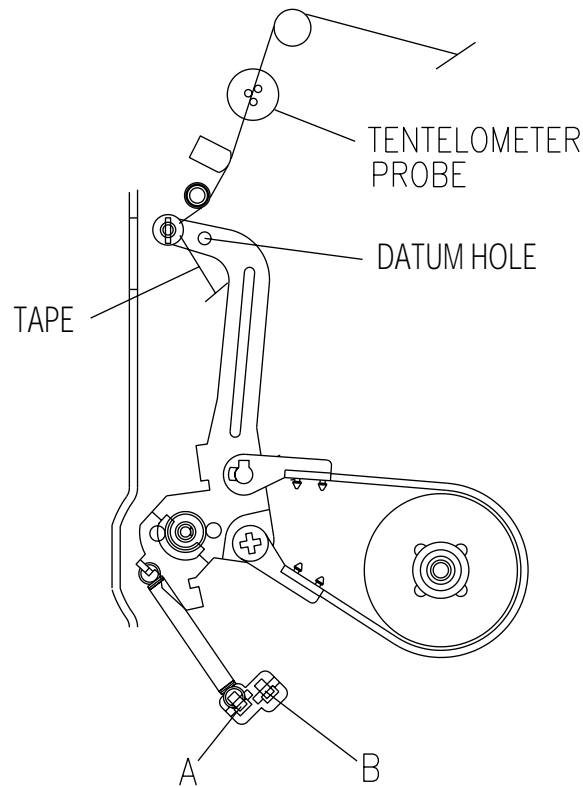

Fig.4-6 BACK TENSION MEASUREMENT
4-2. BACK TENSION MEASUREMENT (See Fig.4-6~4-7)
- c. Bring the TENTELOMETER into contact with the TAPE (Fig.4-6) and measure the BACK TENSION. The measuring result should be between 25 and 33 grams.